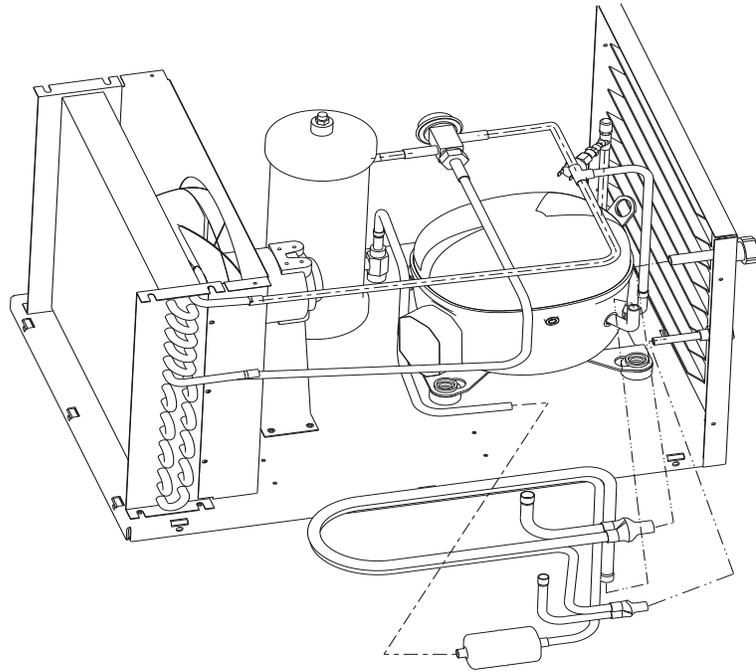

Figure 10. Connection of Suction Line Tubing
11. Connect the suction line tubing as shown in Figure 10.